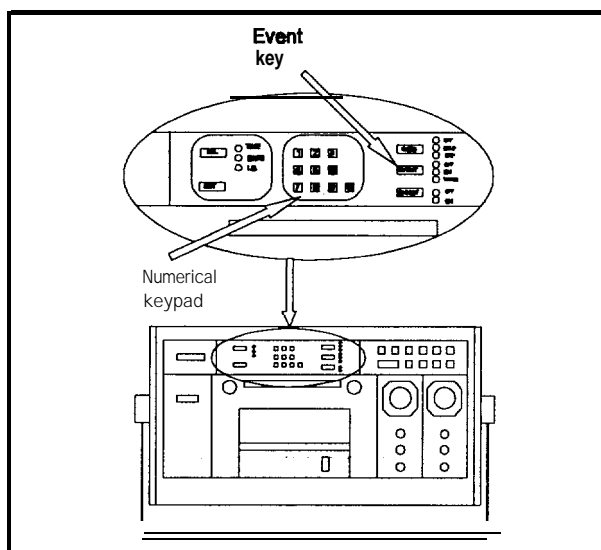

Figure 6
2.2.6 Event Marking - The EVENT key, Figure 6, located behind the upper panel door, enables the event marker inputs and event function. The connections for the event marker inputs are on the rear panel. For more detailed event marker input connection instructions, refer to the installation instructions in Section 2 of the Gould EasyGraf TA240 User's Manual.